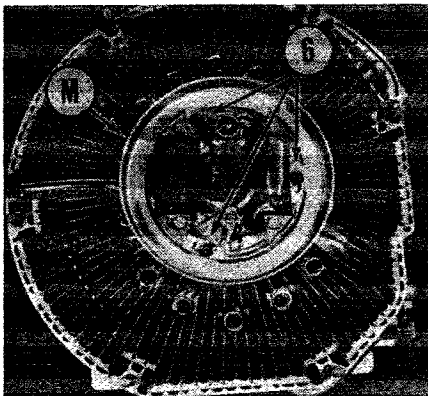

Fig. 12—Remove the three screws (6) and lift armature out of mounting plate (M).
threaded holes (P). Remove ignition plate assembly and magneto mounting plate as shown in Figs. 12 & 13; remove the circle of socket head cap screws (8) and lift off ignition side end plate.